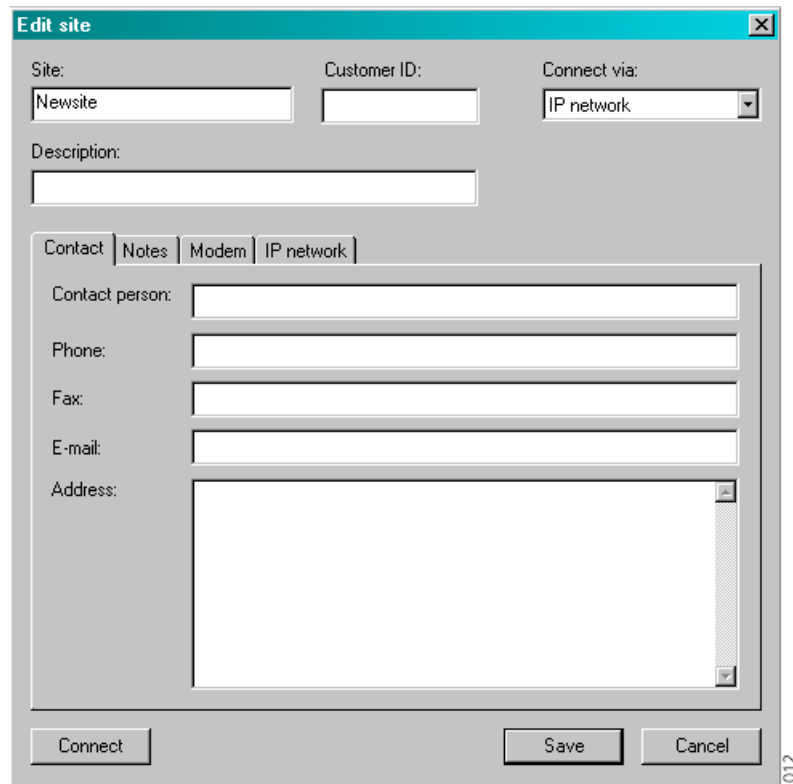

Figure 15. Edit site window where detailed site information is filled in.
- 1 In the *Administrate Sites* window, click "Edit" to change site information. The *Edit site* window looks, in this example, as figure 15 below.